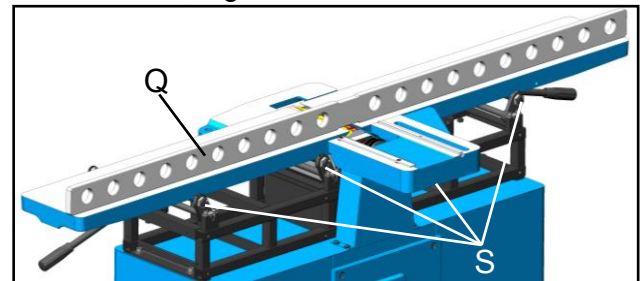

Fig. 18
2. PULL out the 1/8" depth stop plate (C) then raise or lower the height adjustment handle (B) to the desired depth of cut then retighten lock handle (A) to secure the infeed table in position, Fig. 18.
7. Set a straightedge (Q) on the rear that must cross the infeed table & outfeed table, adjust 4 eccentric sleeves (S) by 24mm open wrench. Keep checking the level of the tables with a straightedge until leveling is achieved, Fig. 18.